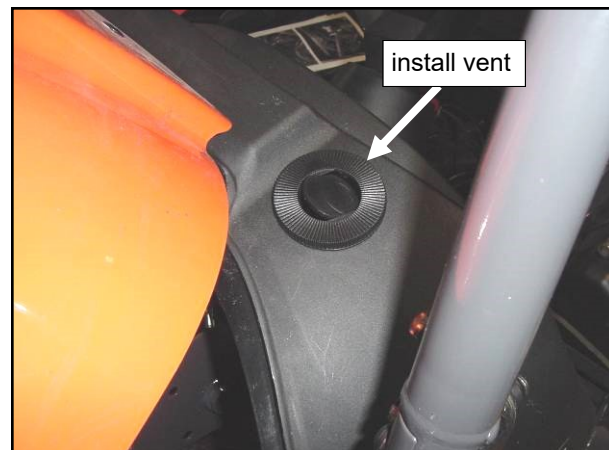

Fig. 4.2 (view from front of driver's side)
4.2 Per fig. 4.2, install the round vent as shown. Note: if the hole is too tight, use a standard hand file and remove more material in four specific places across from each other according to the pattern of engagement tabs on the round vent.